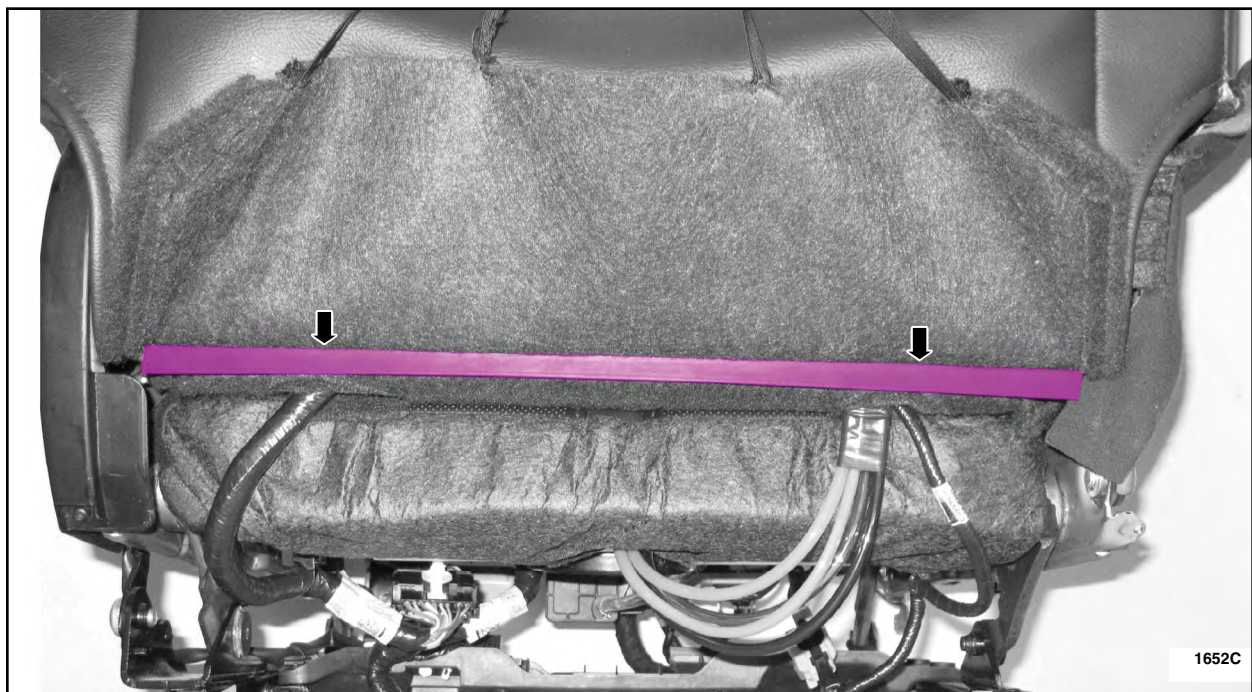

FIGURE 7
8. Detach the backrest cover lower J-clip. See Figure 7.